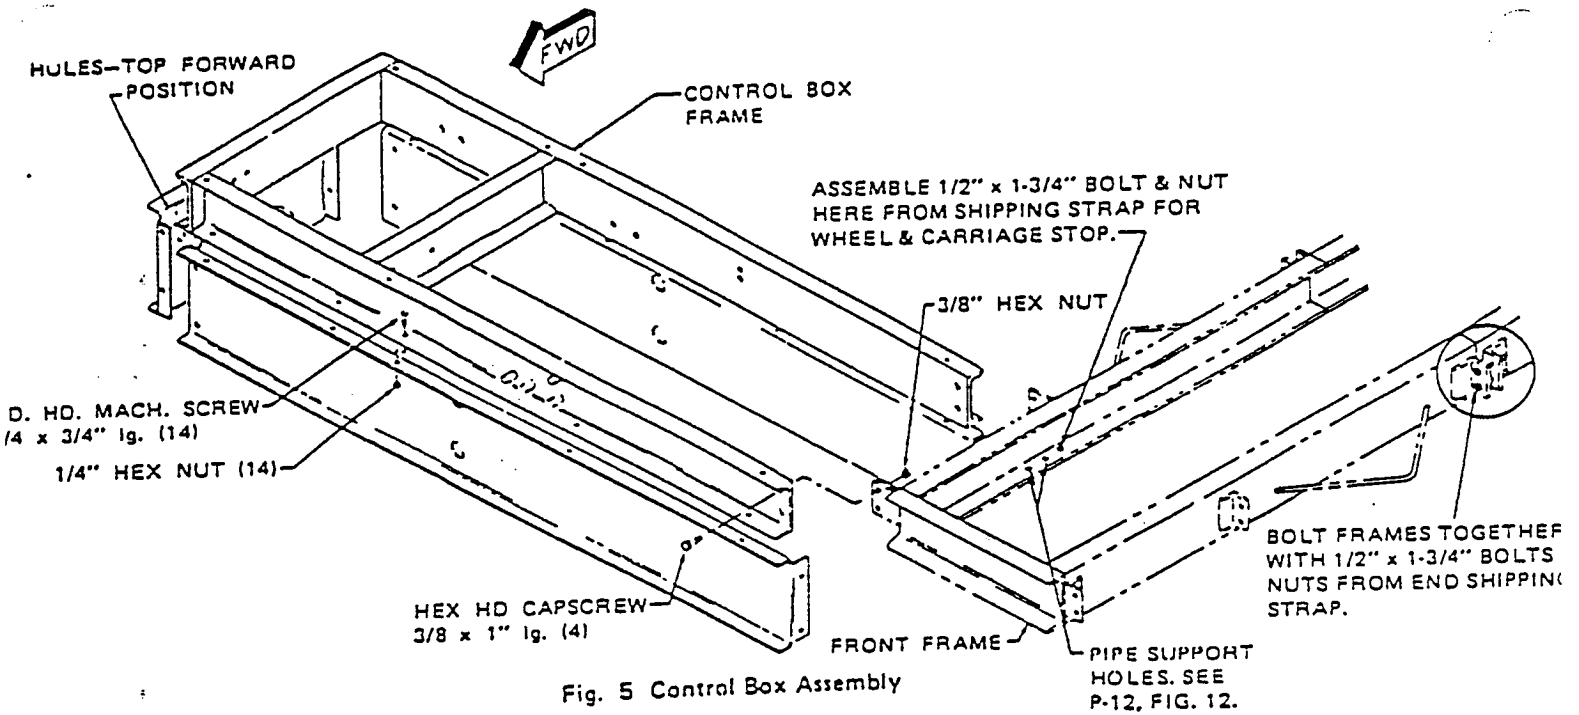
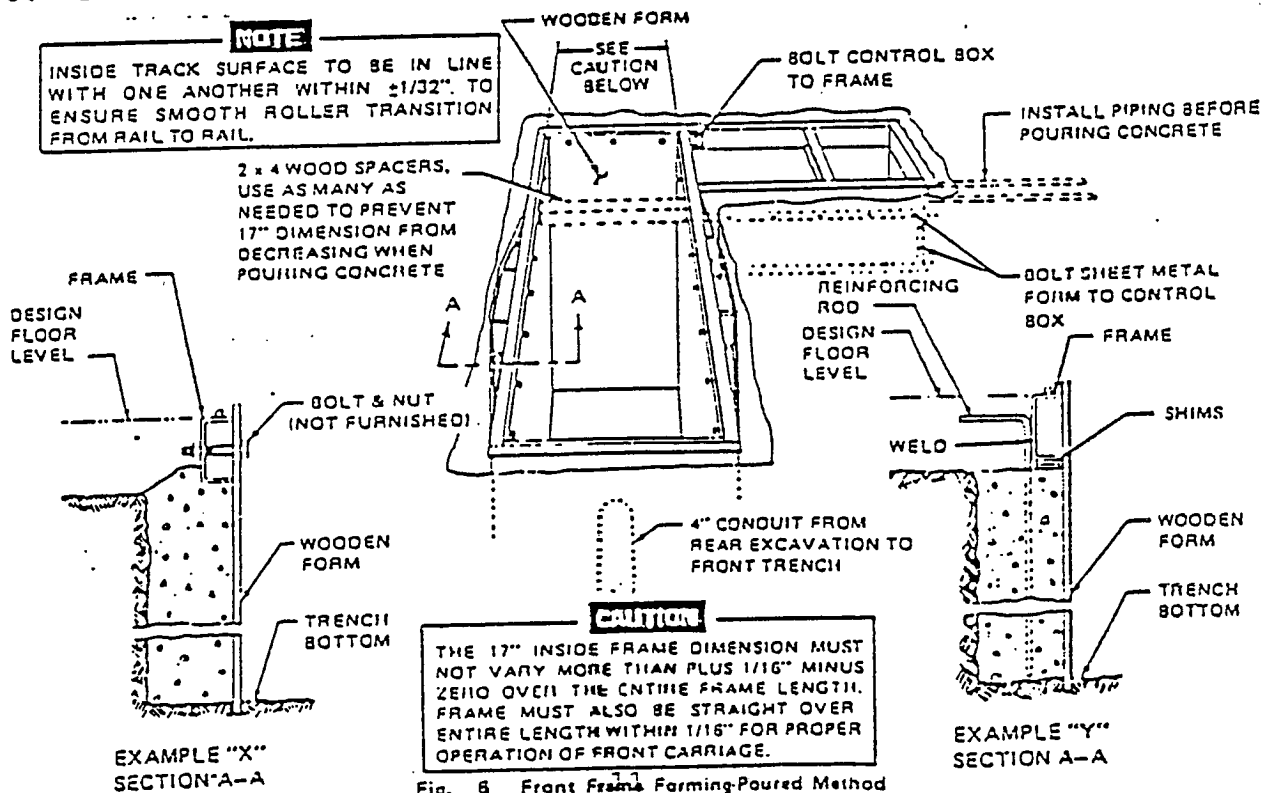

Fig. 5 Control Box Assembly
Fig. 6 Front Frame Farming-Poured Method
5. Refer to Fig. 5 and assemble sheet metal sides to control box frame with 1/4 in. machine screws and hex nuts. Attach control box to front frame with 3/8 capscrews and hex nuts furnished.
1. Construct a form having outside dimensions identical with inside of front frame. Provide an opening in form for 4 in. conduit from rear frame. See Fig. 6 for suggested examples.
2. Using EXAMPLE "X" shown in Fig. 6, Section A-A. Bolt front frame to sides of form as shown (holes not provided in frame, must be drilled as required). Refer to Fig. 5, assemble control box parts and attach to front frame as shown. Complete steps 3, 4 & 5 and refer to page 15, step 2b of "Concrete Pouring and Finishing" for completion of Example "X".
Using Example "Y" shown in Fig. 6, Section A-A. Follow steps 3 & 5. Assemble control box parts and attach to front frame as shown in Fig. 5. Refer to page 15, step 2C of "Concrete Pouring and Finishing" for completion of Example "Y". Install piping referred to in step 4 after positioning frame.
shown in Fig. 6 for stability and leveling of form. If frame is attached to form as in Example "X", top surface of frame and control box should be flush with designed finished floor level.
B. POURED METHOD (EXAMPLE X): With form in place and frame bolted to form, pour concrete around frame and control box and thoroughly work under the full length of channel sides for maximum support. Pour partially up frame and let set up. (Fig. 6, Example "X"). Remove bolts and form and pour trench floor if not previously poured, (maintain 92 in. depth as in Fig. 4). Finish as in step 3 below.
C. POURED METHOD (EXAMPLE Y): Pour concrete around form up to a point where frame and control box can be shimmed to floor level when concrete sets up. After leveling frame, weld frame to reinforcing rod as shown in Fig. 6, Example "Y". Bring in piping (Para. 4, page 8). Finish pouring as noted in step 3 below, thoroughly working concrete under the full length of channel sides for maximum support.